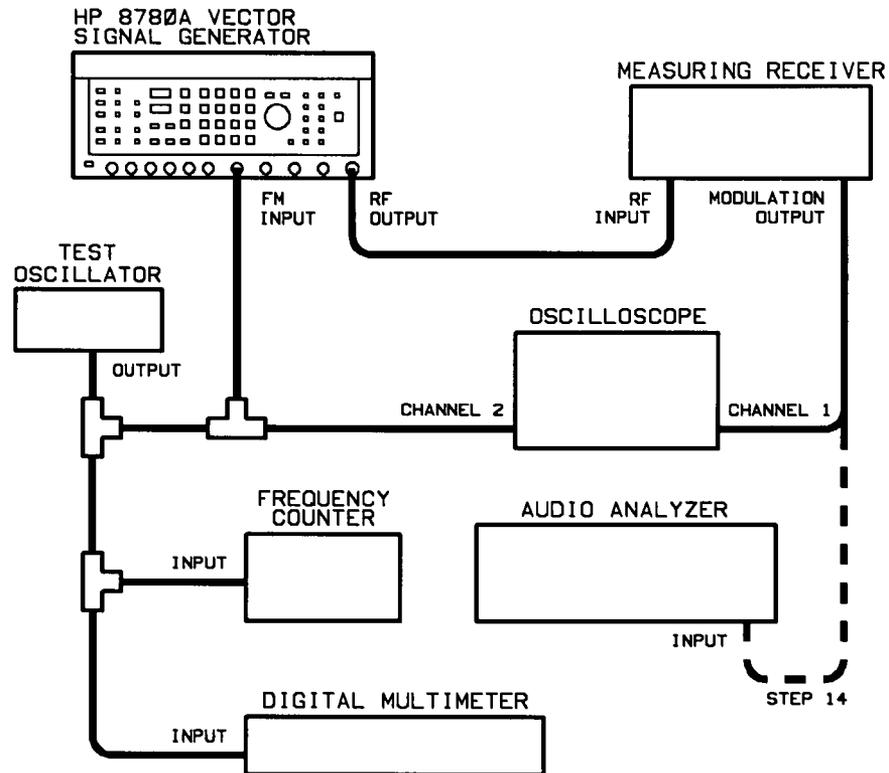

Figure 4-8. FM (dc Coupled) Test Setup
2. Connect the equipment as shown in figure 4-8.